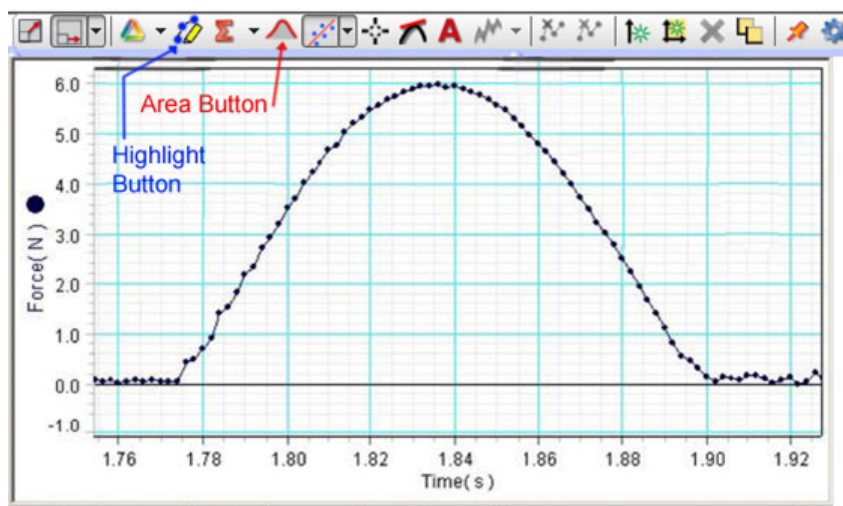

Figure 6: Screenshot showing plot of spring force versus time
Practice Steps 3 and 4 a few times before performing the experiment. You should be able to get the cart to return to roughly the same place each time it is released, and you should have a nice, smooth force vs. time curve like the one shown in Figure 6.
- b Click on the **Highlight** button (See Figure 6).